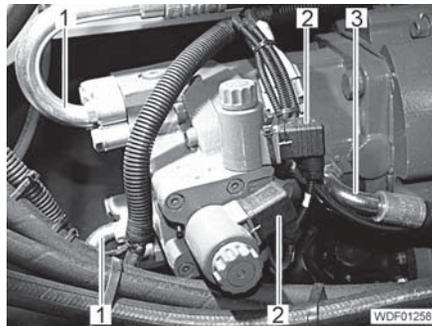

Fig. 253 Topside of the variable displacement motor
- Undo 1 screw on each of the connectors (Fig. 253,2), pull the connectors off the solenoid valves and protect the contacts (e.g. with a protective cap).
- Unscrew and close off the hydraulic line of the cross flushing connection (Fig. 253,3).
- Undo 4 screws on each of the flange halves of the two high pressure lines (Fig. 253,1) and remove the flange halves.